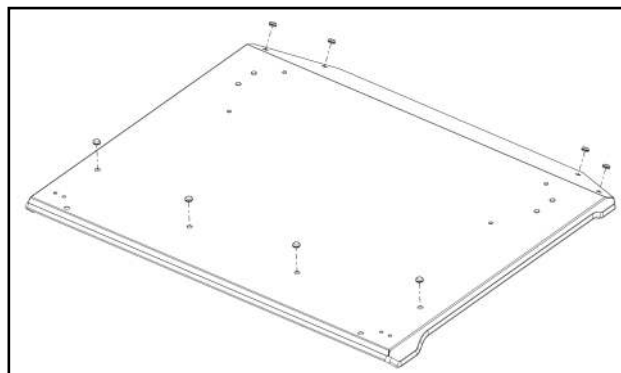

Fig. 14.1 (Roof Preparation)
- 14.1** Prep the roof for installation by removing the (4) rubber plugs along the front of the roof and the (4) rubber plugs at the rear of the roof as shown in Figure 14.1.